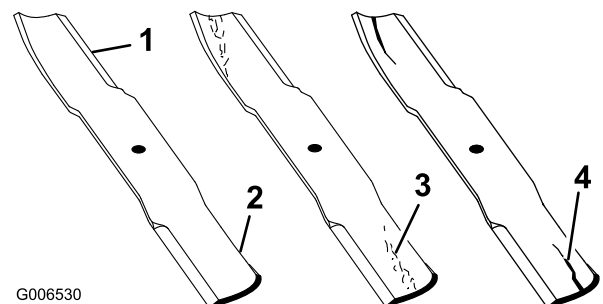

Figure 95
1. Inspect the cutting edges (Figure 95). If the edges are not sharp or have nicks, remove and sharpen the blades. Refer to Sharpening the Blades.
2. Inspect the blades, especially the curved area (Figure 95). If you notice any damage, wear, or a slot forming in this area (Figure 95), immediately install a new blade.